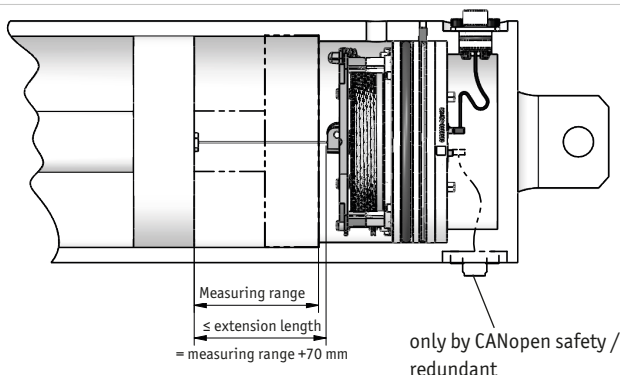

Fig. 2: Extension length check
- ▶ Do not extend the wire beyond the specified maximum extension length (see Fig. 2).
- ▶ Conduct the wire perpendicular to the wire outlet (see Fig. 2).